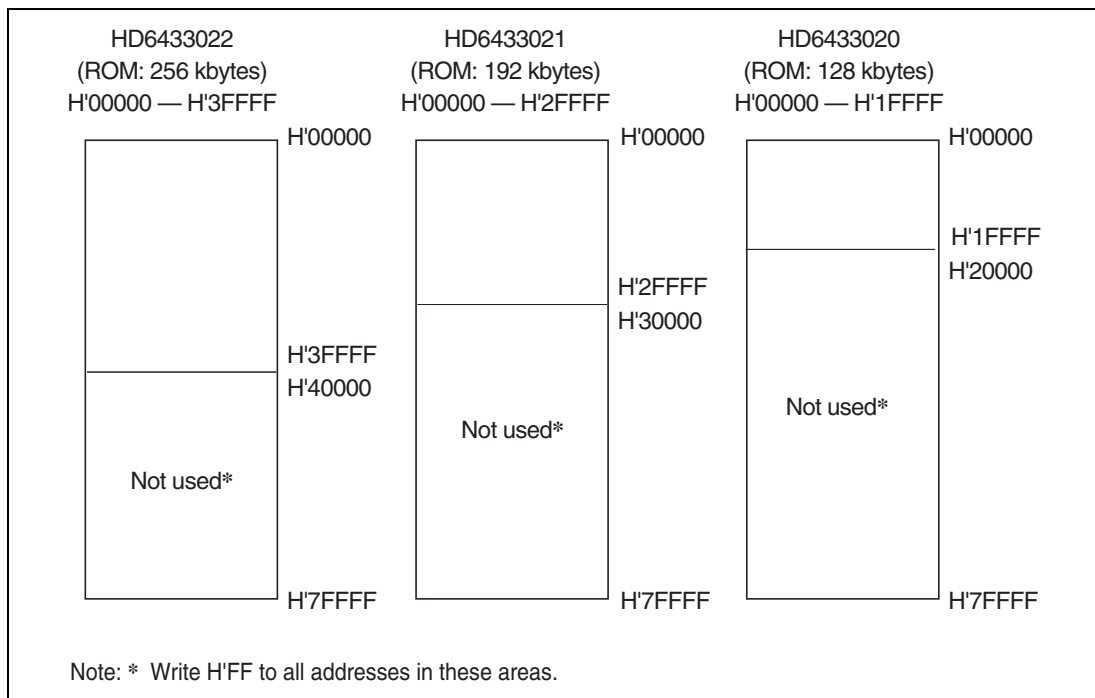

Figure 15.21 Mask ROM Addresses and Data
2. Fill all unused addresses with H'FF as shown in figure 15.21 to make the ROM data size the same as for the 512-kbyte version. This applies to ordering through an EPROM and through electrical data transfer.